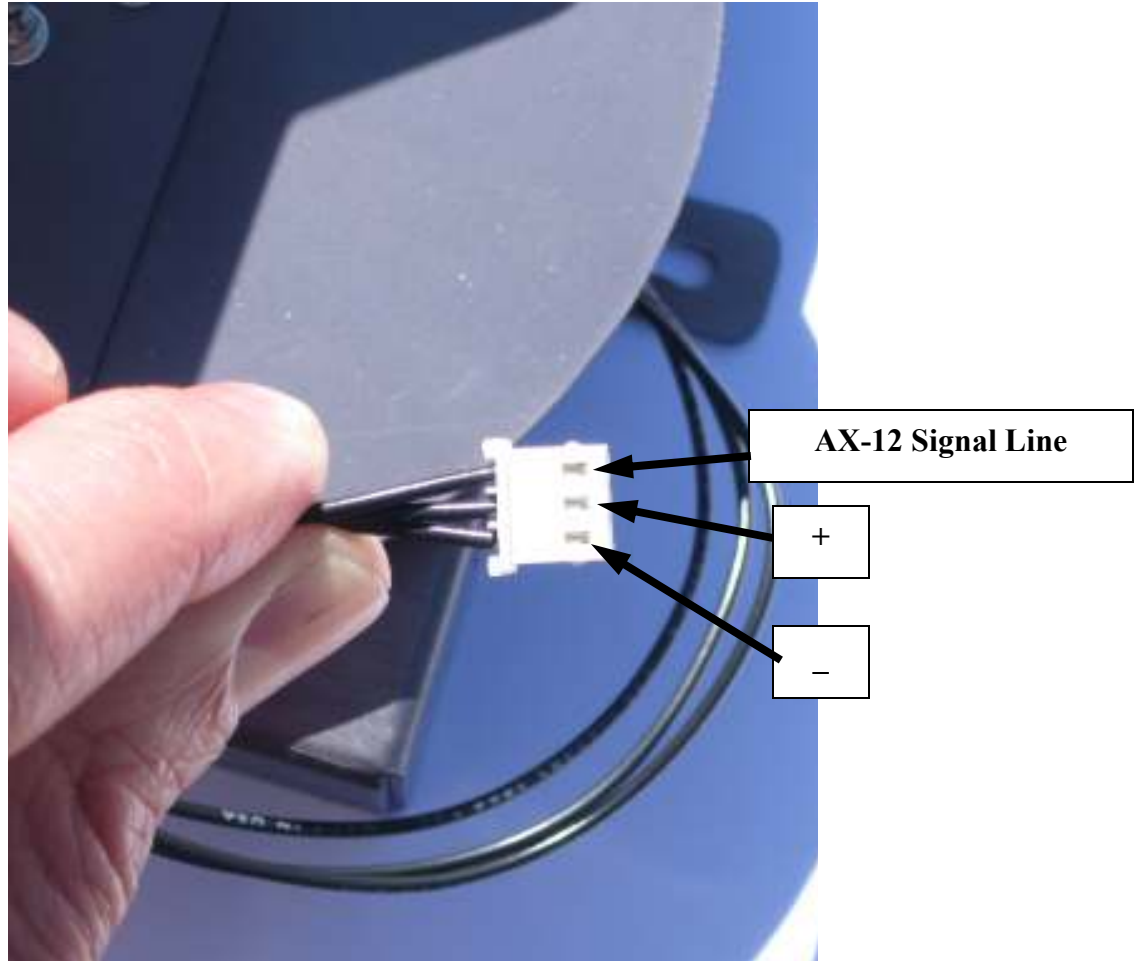

Figure 2 - AX-12 pinout
3. Connect the signal line coming from the AX-12 Smart Robotic arm to the jumper wire (this should be soldered) (refer to figure 2 which displays the pin-out of the AX-12 cable).